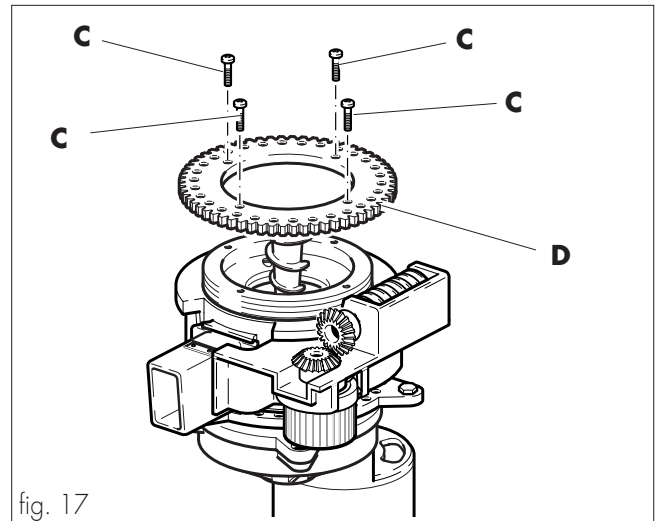

fig. 17
- Firstly remove the four screws (ref. C, fig. 17), then the geared wheel (ref. D, fig. 17).